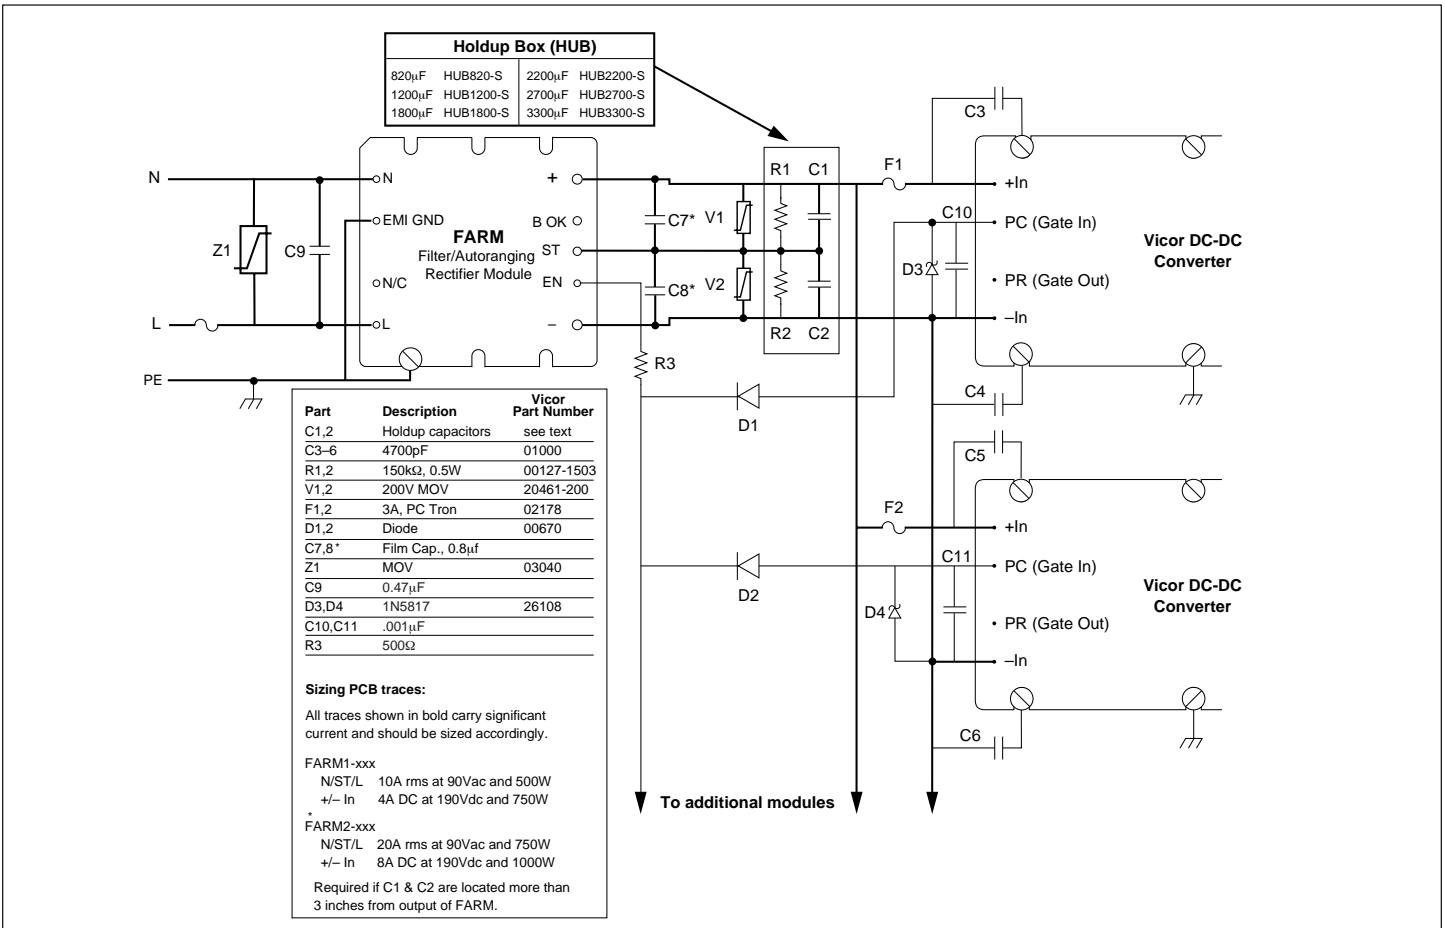

Figure 9—Converter connections
**Strap (ST) Pin.** In addition to input and output power pin connections, it is necessary to connect the Strap pin to the center junction of the series hold-up capacitors (C1, C2, see Fig. 9) for proper (autoranging) operation. Gas tubes V1 and V2 provide capacitor protection. The bleeder resistors (R1, R2, see Fig. 9) discharge the hold-up capacitors when power is switched off. Capacitors C7 and C8 are recommended if the holdup capacitors are located more than 3 inches from the FARM output pins.
It should be noted that the series combination (C1, C2, see Fig. 9) requires each capacitor to be twice the calculated value, but the required voltage rating of each capacitor is reduced to 200V.